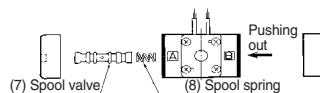

Fig. 3
2. Push spool valve (7) and spool spring (8) out from the end cover side (the letter "B" side of the body) of body (3). (Do not push them out from the opposite direction. Fig. 3)